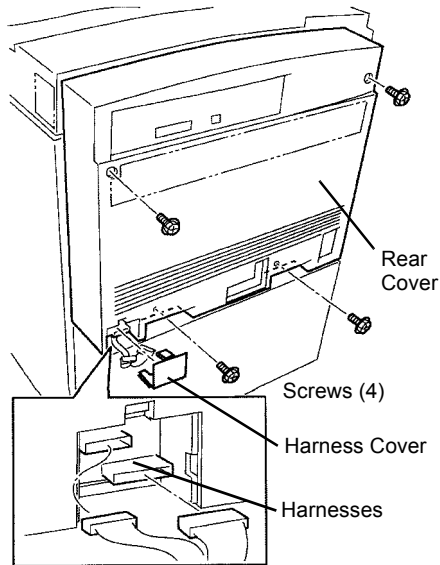

Figure 1 Removing Rear Cover
1. Remove Rear Cover (Figure 1).
- b. Remove Screws (4).